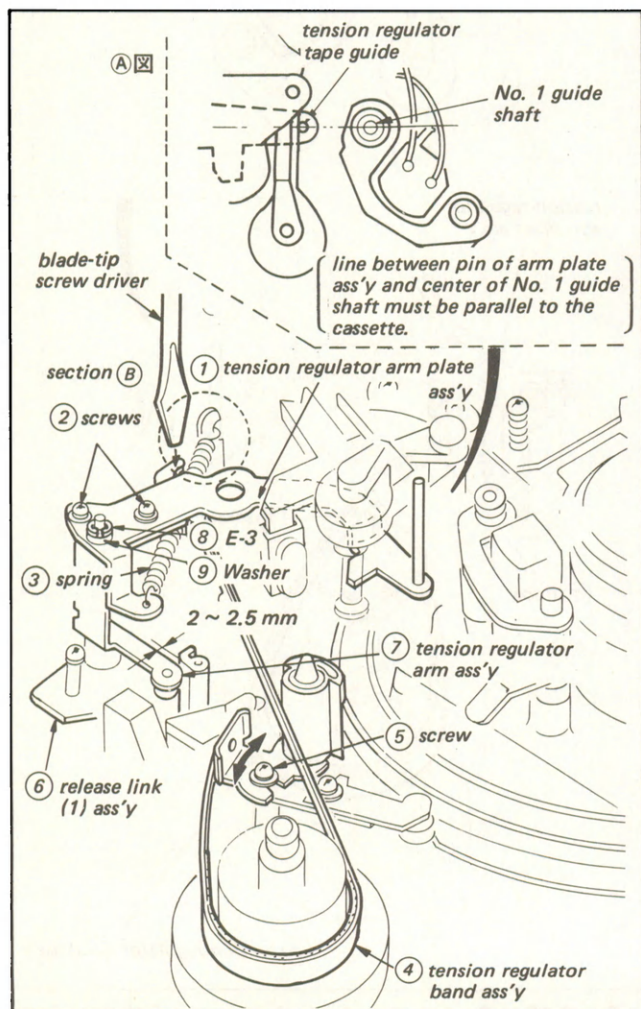

Fig. 3-11. Replacement and adjustment (1) of tension regulator arm plate assembly
1. The tension regulator arm plate can be removed after removing two screws (2), spring (3), E-3 (8) and washer (9) shown in Fig. 3-11.
- (iii) Loosen screw (5) that mounts tension regulator band assembly (4) as shown in Fig. 3-11. Move tension regulator band assembly (4) in the arrow direction, and tighten screw (5) tentatively when the condition shown in (A) is set up.
- (iv) Insert a standard blade-tip screwdriver into section (B), adjust the clearance between release link (1) assembly (6) and tension regulator arm assembly (7), shown in Fig. 3-11, to be 2 to 2.5 mm, and tighten screw (2).
- (v) Repeat Steps (iii) and (iv) again and tighten screws (2) and (5).